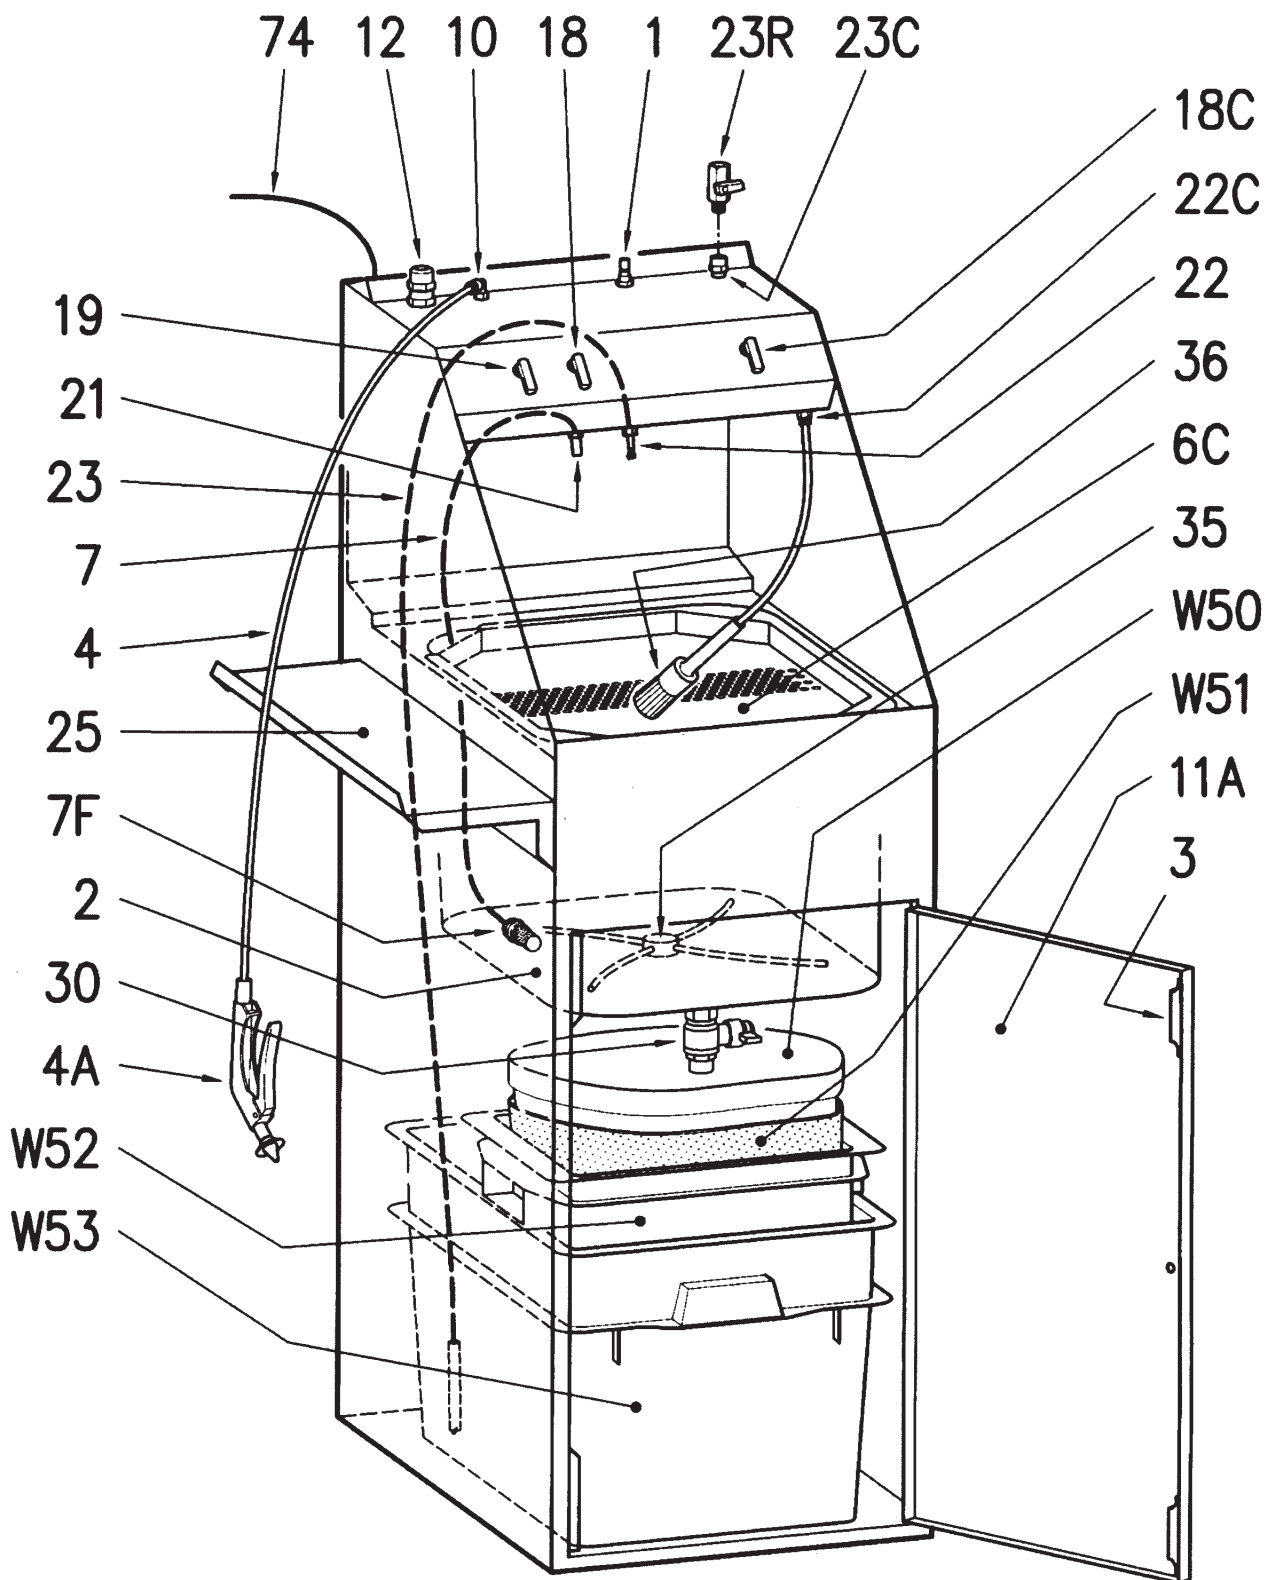

Figure 1
The **Spray-gun washer** basically consists of a steel container (see fig.1) housing:
- A stainless steel tank to collect the used water (**pos.2 fig.1**).
- A grill (**pos. 6G fig 1**) positioned on the stainless steel tank.
- A nebulizer (**pos.22 fig.1**).
- A small pump (**pos. 21 fig.1**).
- A brush connected to the water mains (**pos.36 fig.1**).
- An air distributor to mix the water with the flocculant powder (**pos. 35 fig.1**).
- A washing tank drain valve (**pos.30 fig.1**).
- A kit to separate the paint from the water (**pos. W50 - W51 - W52 - W53 - fig.1**).
- A hose (**pos.23 fig.1**) for the intake of water for the nebulizer.
- A hose (**pos.7 fig.1**) for the intake of water for the small pump.
- The clean water pump (**pos.19 fig.1**)
- The clean water nebulizer (**pos. 18 fig.1**),
- The clean water from the water supply of the company (**pos.18C fig.1**).
- The air regulator to mix the used water with the flocculant powder (**pos.1 fig.1**).
SPRAY-GUN WASHER DESCRIPTION (See figure 1):
| Capacity of the washing tank (pos.2 fig.1). | dm ³ (litres) | 50 |
| Lower container capacity (pos.W53 fig.1). | dm ³ (litres) | 70 |
- **It is forbidden** to rest objects over 10 kg weight on the **Spray-gun washer** grill (**pos. 6G fig. 1**).
- **It is forbidden** to connect and disconnect too often the air supply hose from the fitting (**pos. 12 fig. 1**).
- **It is forbidden** to use plastic drums (**pos.27 and 28 fig.1**).